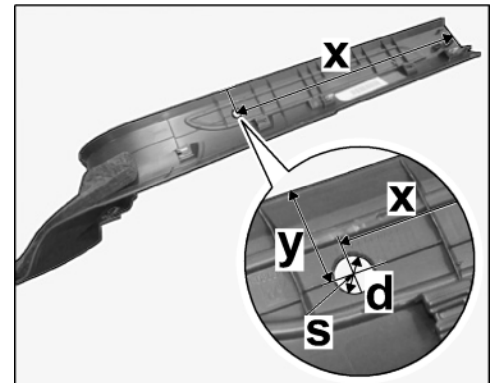

Figure 21
3.2 Drill cable hole (Ø = 18 mm / 0.71 in) in the (inner) door sill trim (⇒ *Figure 21*).
3.2.1 Mark point of intersection (⇒ *Figure 21-S*) of dimensions x and y on the inner door sill trim.